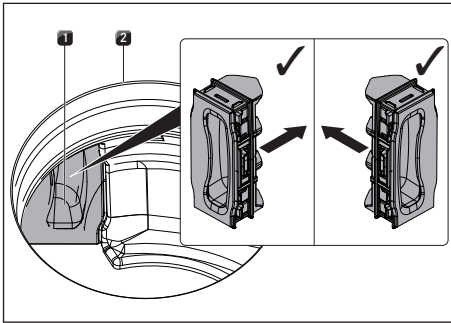

Fig. 8.10 Inserting the filter replacement cover
- ▶ Inside the inlet opening push the filter replacement cover until it comes to a stop in the filter housing opening (to insert the filter replacement cover see Fig. 8.10).